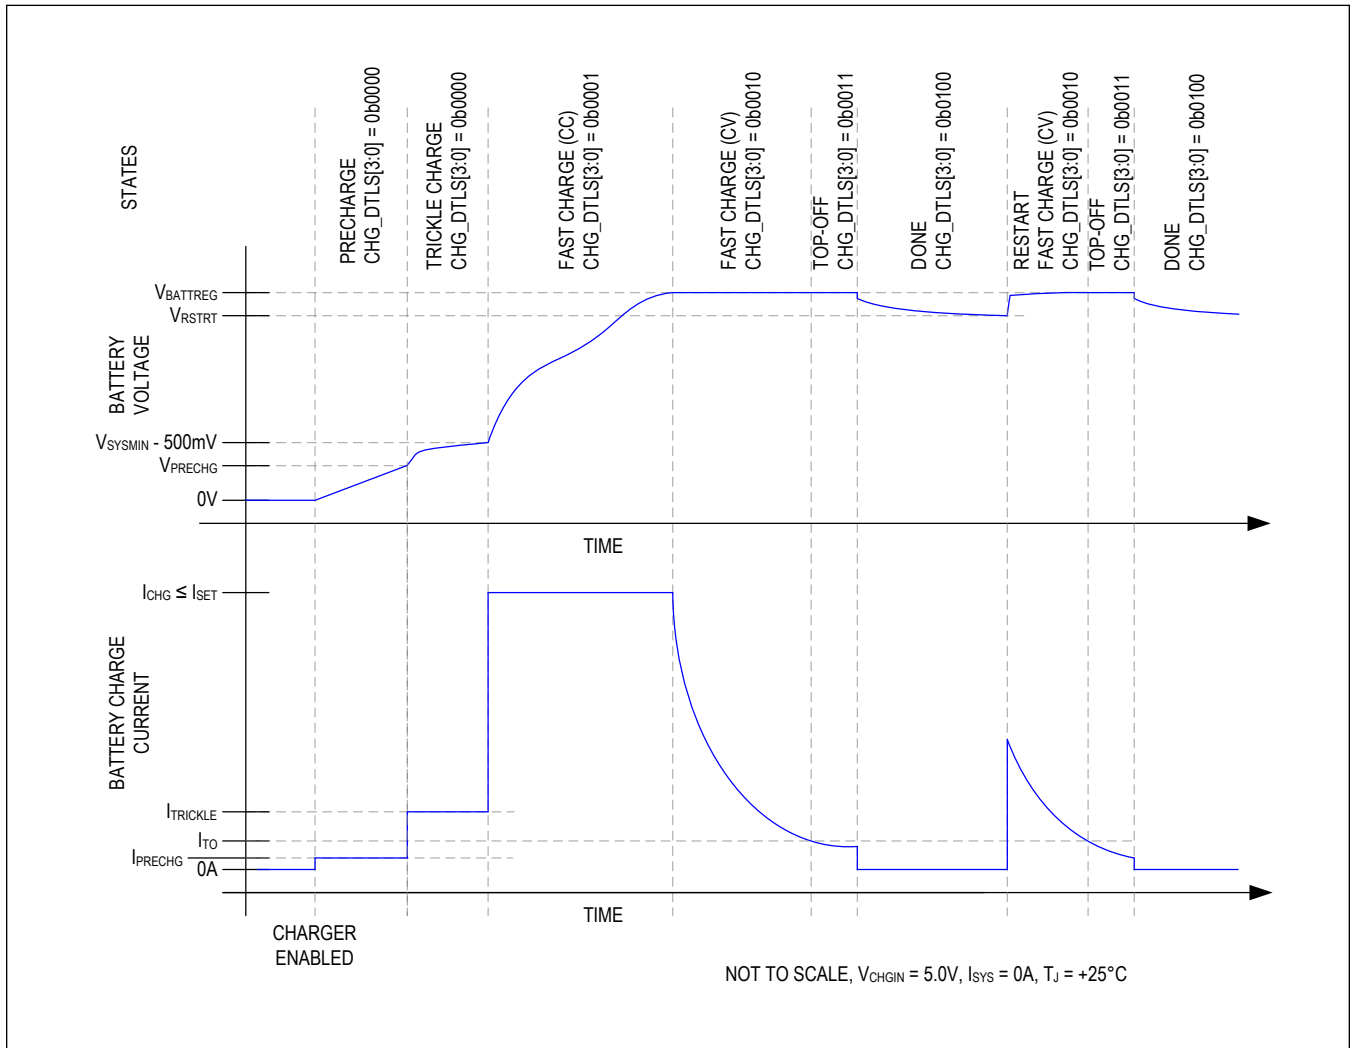
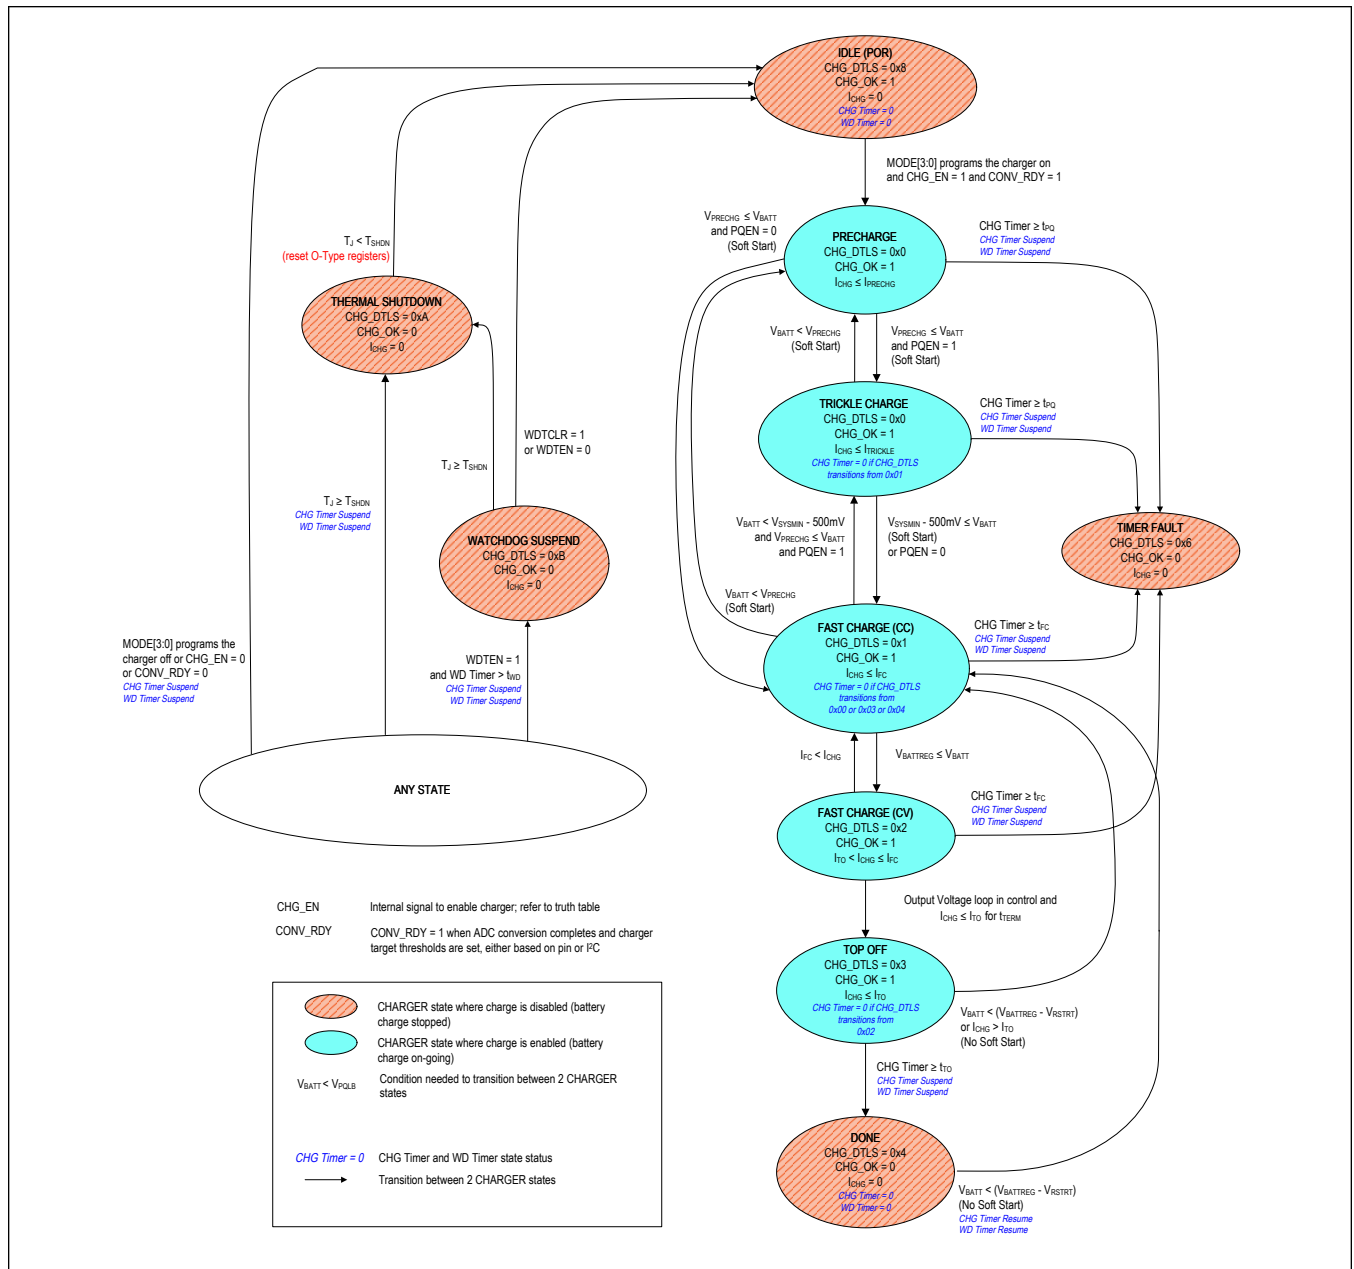

Figure 1. Li Battery Charge Profile
Figure 2. Charger State Diagram
The IC utilizes several charging states to safely and quickly charge batteries as shown in Figure 1 and Figure 2. Figure 1 shows an exaggerated view of a Li+/Li-Poly battery progressing through the following charge states when there is no system load and the die and battery are close to room temperature: Prequalification \rightarrow Fast-charge \rightarrow Top-off \rightarrow Done.
From any state shown in Figure 2, except thermal shutdown, the “no input power or charger disabled” state is entered whenever the charger is programmed to be off or the charger input CHGIN is invalid. After being in this state for t_{SCIDG} , CHG_DTLS is set to 0x08 and CHG_OK is set to 1. A CHG_I interrupt is generated if CHG_OK was 0 previously.
As shown in Figure 2, the charger enters the precharge state when the battery voltage is less than V_{PRECHG} . After being in this state for t_{SCIDG} , a CHG_I interrupt is generated if CHG_OK was 0 previously, CHG_OK is set to 1, and CHG_DTLS is set to 0x00. In the precharge state, charge current into the battery is I_{PRECHG} .
As shown in Figure 2, the charger state machine is in trickle charge state when $V_{PRECHG} < V_{BATT} < V_{SYSMIN} - 500mV$. After being in this state for t_{SCIDG} , a CHG_I interrupt is generated if CHG_OK was 0 previously, CHG_OK is set to 1, and CHG_DTLS = 0x00.
As shown in Figure 2, the charger enters the fast-charge constant current (CC) state when $V_{\text{SYSTEMIN}} - 500\text{mV}$ (typ) < $V_{\text{BATT}} < V_{\text{BATTREG}}$. After being in the fast-charge CC state for t_{SCIDG} , a CHG_I interrupt is generated if CHG_OK was 0 previously, CHG_OK is set to 1, and CHG_DTLS = 0x01.
As shown in Figure 2, the charger enters the fast-charge constant voltage (CV) state when the battery voltage rises to V_{BATTREG} from the fast-charge CC state. After being in the fast-charge CV state for t_{SCIDG} , a CHG_I interrupt is generated if CHG_OK was 0 previously, CHG_OK is set to 1, and CHG_DTLS = 0x02.
In the fast-charge CV state, the battery charger maintains V_{BATTREG} across the battery and the charge current is less than or equal to I_{FC} . As shown in Figure 1, charger current decreases exponentially in this state as the battery becomes fully charged.
As shown in Figure 2, the top-off state can only be entered from the fast-charge CV state when the charger current decreases below I_{TO} for t_{TERM} . After being in the top-off state for t_{SCIDG} , a CHG_I interrupt is generated if CHG_OK was 0 previously, CHG_OK is set to 1, and CHG_DTLS = 0x03. In the top-off state the battery charger maintains $V_{BATTREG}$ across the battery and typically the charge current is less than or equal to I_{TO} .
As shown in Figure 2, the battery charger enters its done state after the charger has been in the top-off state for t_{TO} . After being in this state for t_{SCIDG} , a CHG_I interrupt is generated only if CHG_OK was 0 previously, CHG_OK is set to 0, and CHG_DTLS = 0x04.
The battery charger provides both a charge timer and a watchdog timer to ensure safe charging. As shown in Figure 2, the charge timer prevents the battery from charging indefinitely. The time that the charger is allowed to remain in its prequalification states is t_{PQ} . The time that the charger is allowed to remain in the fast-charge CC and CV states is t_{FC} which is programmable with FCHGTIME. Finally, the time that the charger is in the top-off state is t_{TO} which is programmable with TO_TIME. Upon entering the timer fault state, a CHG_I interrupt is generated without a delay, CHG_OK is cleared, and CHG_DTLS = 0x06.
The charger is off in the timer fault state. The charger can exit the timer fault state when the charger is programmed to be off then on again through the MODE bits or when DISQBAT pin is toggled from L-H-L. Alternatively, the charger input can be removed and re-inserted to exit the timer fault state (see the “ANY STATE” bubble in Figure 2).
The battery charger provides both a charge timer and a watchdog timer to ensure safe charging. As shown in Figure 2, the watchdog timer protects the battery from charging indefinitely in the event that the host hangs or otherwise cannot communicate correctly. The watchdog timer is disabled by default with WDTEN = 0. Enable the feature by setting WDTEN = 1. With watchdog timer enabled, the host controller must reset the watchdog timer within the timer period (t_{WD}) in order for the charger to operate properly. Reset the watchdog timer by programming WDTCLR = 0x01.
As shown in Figure 2, the state machine enters the thermal shutdown state when the junction temperature (T_J) exceeds the device's thermal-shutdown threshold (T_{SHDN}). When T_J is close to T_{SHDN} , the charger would have already folded back the input current to 0A (see the Thermal Foldback section for more details), so the charger and the DC-DC are effectively off. Upon entering this state, CHG_I interrupt is generated if CHG_OK was 1 previously, CHG_OK is cleared, and CHG_DTLS = 0x0A.